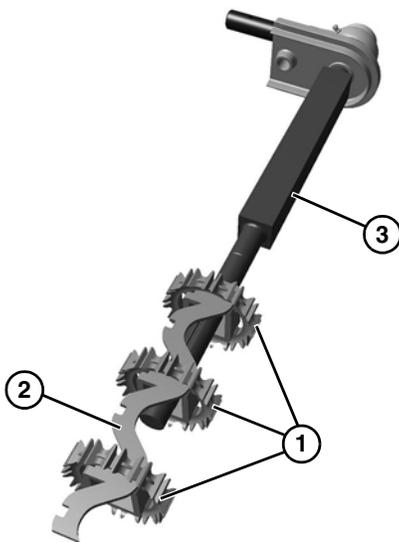

**Figure 61**
3. Install the tracking plate (**Figure 61, item 1**) to each side onto idler shaft (**Figure 61, item 2**) and pinch guard shaft (**Figure 61, item 3**).
4. Install the shaft assembly (**Figure 61, item 4**).